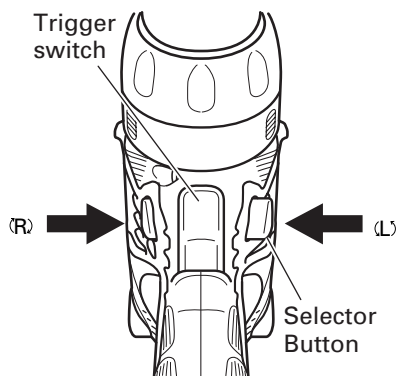

Fig. 19
The L-side of the selector button is pushed to turn the bit counterclockwise. (See Fig. 19) (The (L) and (R) marks are provided on the selector button.)